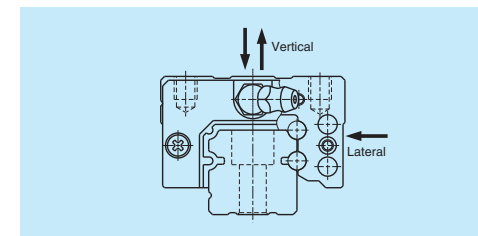

Fig. 3.4 Radial rigidity
- (1) Radial rigidity: Rigidity of vertical and lateral directions, up/down and right/left (**Fig. 3.4**).